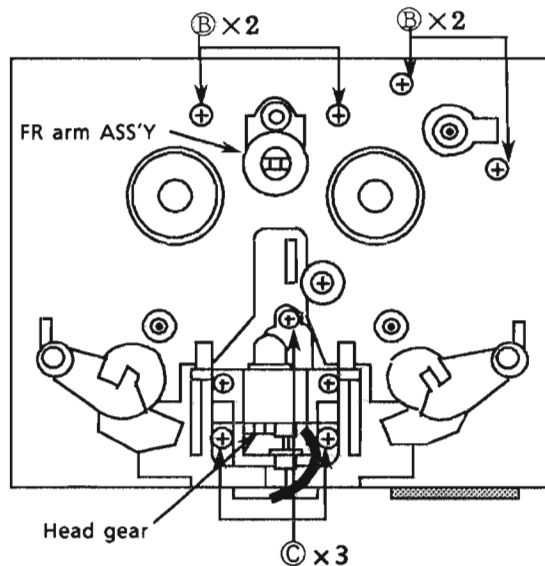

Fig 18
3. Remove the 3 screws (I) fixing the head assembly (Fig 18).
The direction of the head is changed with the head gear. When servicing, install the head gear according to the direction of the head. Refer to fig 18.